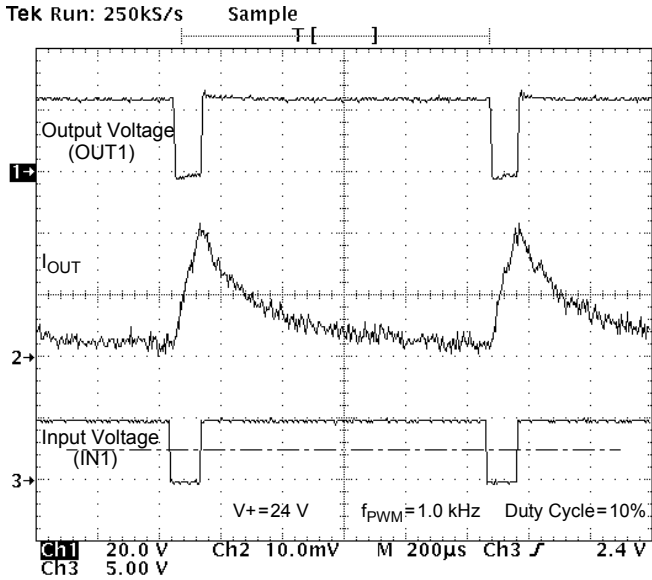

Figure 11. Output Voltage and Current vs. Input Voltage at V+ = 24 V, PMW Frequency of 1.0 kHz, and Duty Cycle of 10%
20. The outputs can be PWM controlled from an external source. This is typically done by holding one input high while applying a PWM pulse train to the other input. The maximum PWM frequency obtainable is a compromise between switching losses and switching frequency. Refer to Typical Switching Waveforms, Figures 11 through 18, pp. 12–13.